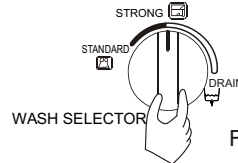

Figure 3
- Select the strength of the current according to the laundries. (Figure 3)